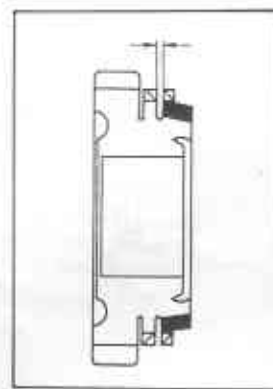

Fig. TM-25 Checking baulk ring for wear
2. Place the baulk ring in position on the cone of each gear. Push the ring to the gear and check the gap between the end face of the baulk ring and the front face of the clutch teeth (See Fig. TM-25).